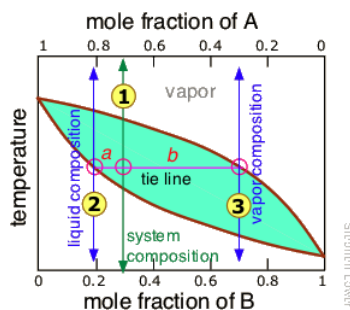

Figure 8.9.7:
But since this would hardly be practical, there is a better way. In order to understand it, you need to know about the *lever rule*, which provides a simple way of determining the relative *quantities* (not just the compositions) of two phases in equilibrium. The lever rule is easily derived from **Raoult's** and **Dalton's laws**, but we will simply illustrate it graphically (Figure 8.9.7). The plot shows the boiling point diagram of a simple binary mixture of composition ①. At the temperature corresponding to the tie line, the composition of the liquid corresponds to ② and that of the vapor to ③.